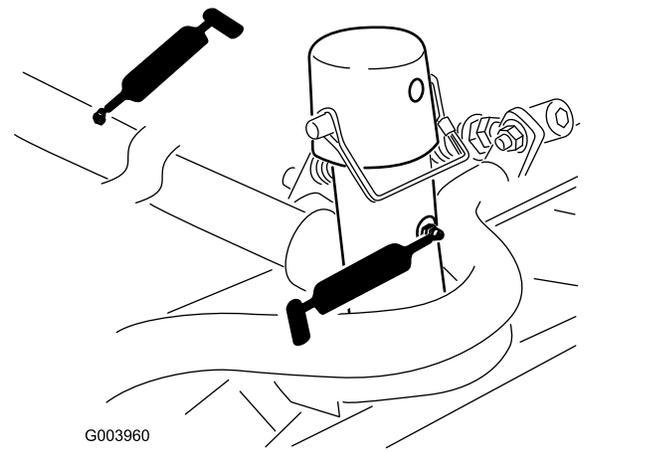

Figure 74
- Cutting-unit carrier-frame and pivot (2 each) (Figure 74)